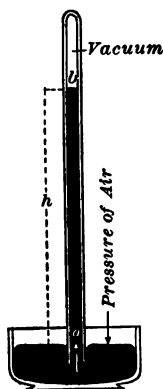

FIG. 88. — Mercury column supported by air.
**94. How to calculate the pressure of the atmosphere.** From the law that pressure in a heavy liquid is everywhere the same at the same depth, we know that the pressure on the mercury in the dish (Fig. 88) is the same at *a* as outside.